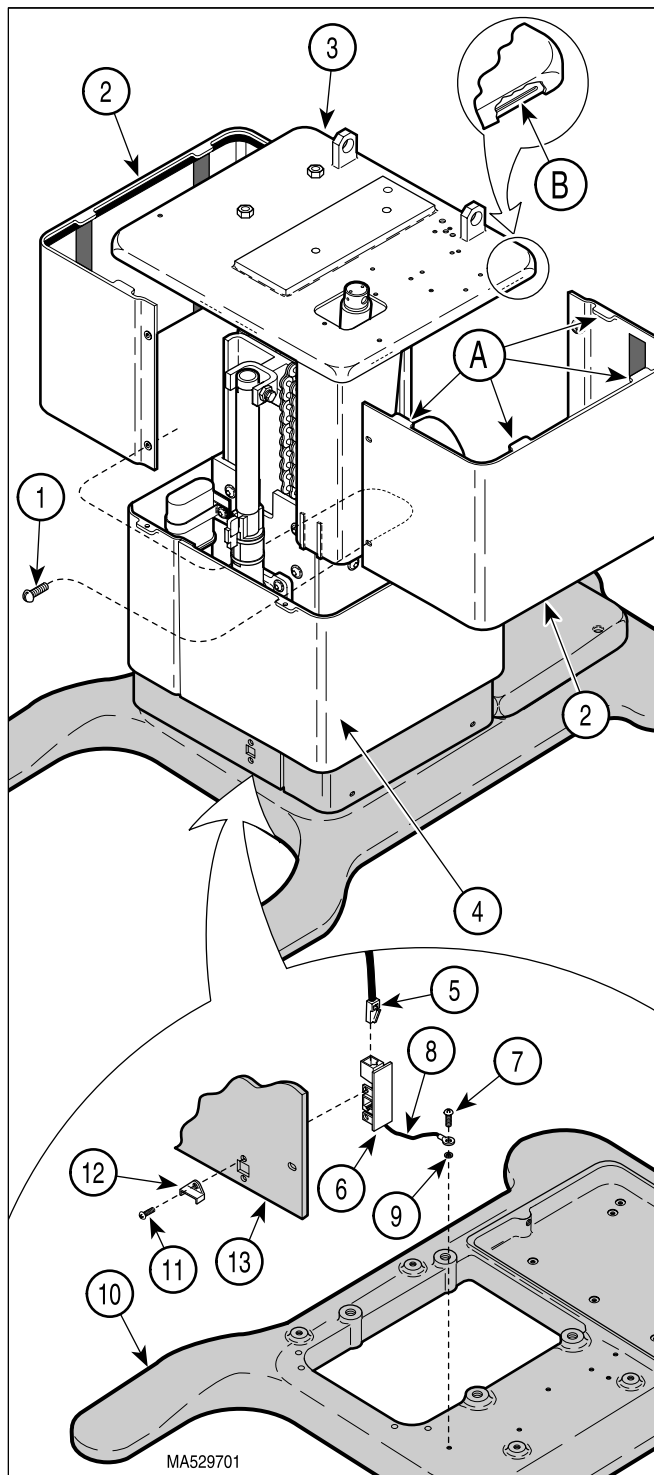

Figure 4-30. Control Inlet PC Board Removal / Installation
- (2) Unplug table power cord from outlet receptacle.
- (3) Remove four screws (1, Figure 4-30) and R.H. and L.H. outer shrouds (2) from column adapter weldment (3).
- (4) Lower middle outer shroud assembly (4) down out of way.
- (5) Unplug modular cord (5) from port of inlet PC board (6).
- (6) Remove screw (7), ground wire (8), and star-washer (9) from base casting (10).
- (7) Remove two screws (11), inlet board cover (12), and inlet PC board (6) from inner shroud (13).